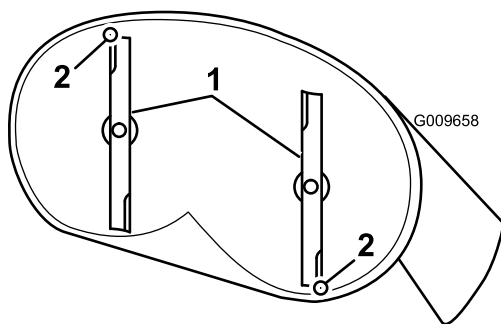
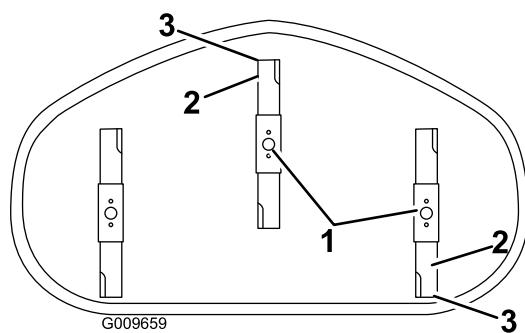

Figure 53
Figure 54
- Carefully rotate the blades so they are facing front to rear (Figure 53 and Figure 54).
5. Measure from the tip of the front blade to the flat surface and the tip of the rear blade to the flat surface (Figure 53 and Figure 54). If the front blade tip is not 1/16-5/16 inch (1.6-7.9 mm) lower than the rear blade tip, adjust the front locknut.
8. After adjustment, check the front-to-rear slope again. Continue adjusting the nut until the front blade tip is 1/16-5/16 inch (1.6-7.9 mm) lower than the rear blade tip (Figure 53 and Figure 54).